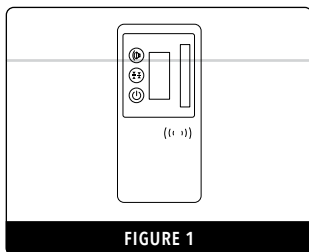

FIGURE 1
- Hold the detector upright to detect the horizontal beam (Fig. 1)